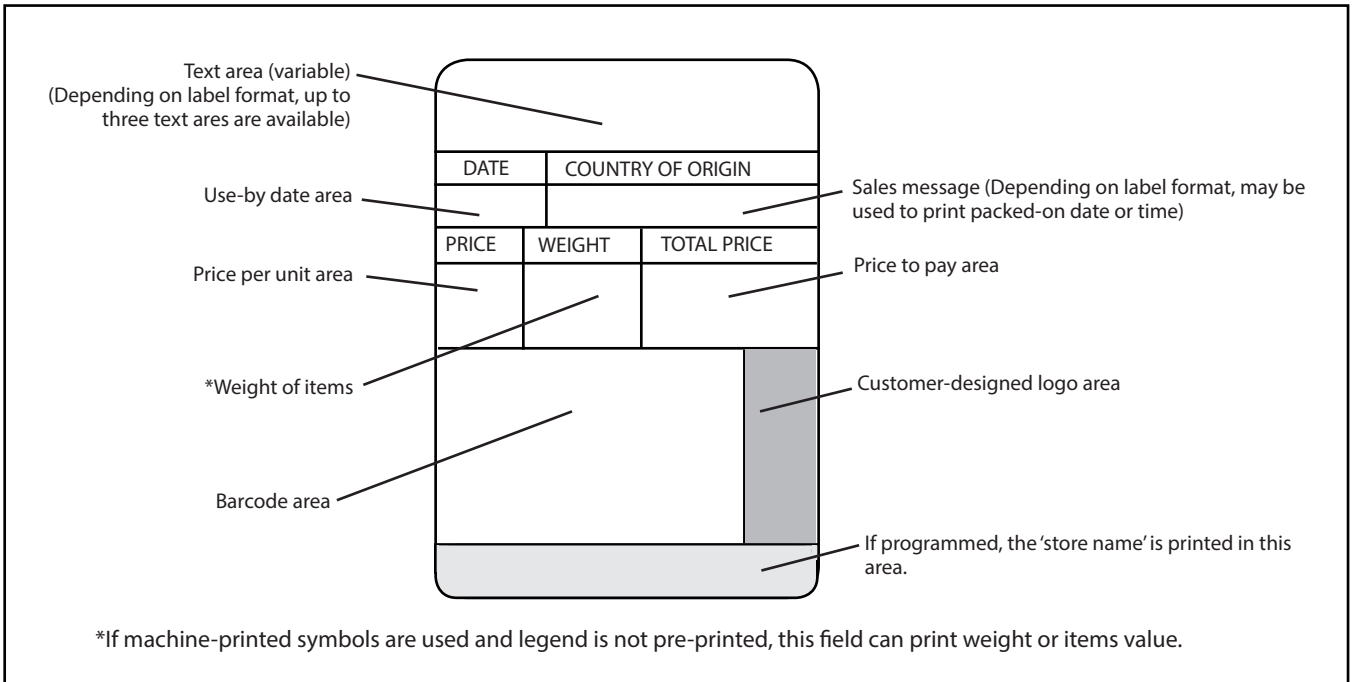

Figure 2.
2. Figures 2 and 3 show the general formatting of labels. The wording of legends printed above which indicate fields in the examples are for guidance only.
- e) Label formats may be used for weighed or non-weighed products. The examples shown in the document have 'WEIGHT' marked in the field used to print either Weight or Items. See figure 2.